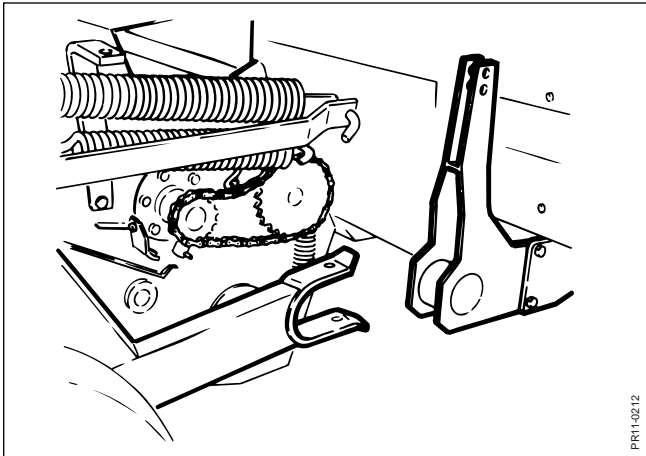

Fig. 3.11
- Fig. 3.11** Let the maize unit rest on the support, and wheel the machine to the maize unit.